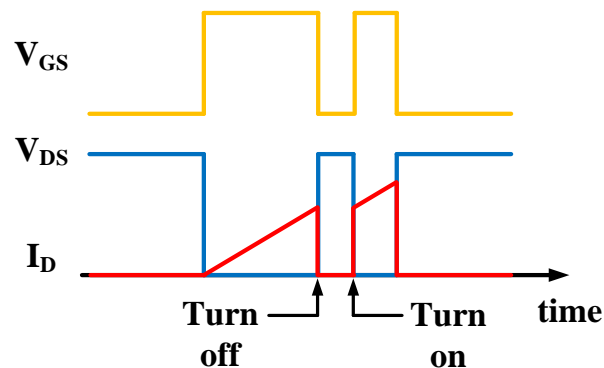

Figure 2. DPT typical waveforms of  $V_{GS}$ ,  $V_{DS}$ ,  $I_{DS}$  for the low side DUT.
**Figure 2** illustrates typical DPT waveforms and operation. During the DUT first gate-ON pulse, constant bus voltage applies across the load inductor  $L$  through DUT which results in a linear increase of inductor current. By adjusting the DUT first gate pulse ON time the inductor current level, which is the same as the DUT first turn-off current, can be controlled. When the DUT is turned off at specified current level, inductor current will freewheel through the high side device until DUT is turned ON again. Measurements of  $V_{GS}$ ,  $V_{DS}$ ,  $I_{DS}$  at the “turn-off” and “turn-on” transient reveal device switching speed ( $dv/dt$ ,  $di/dt$  slew rate), gate delay, switching loss, and reverse recovery (high side device) performance.